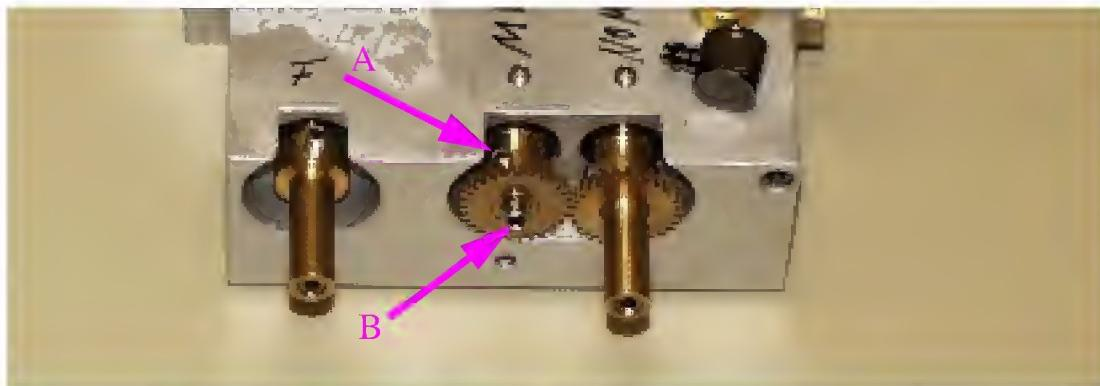
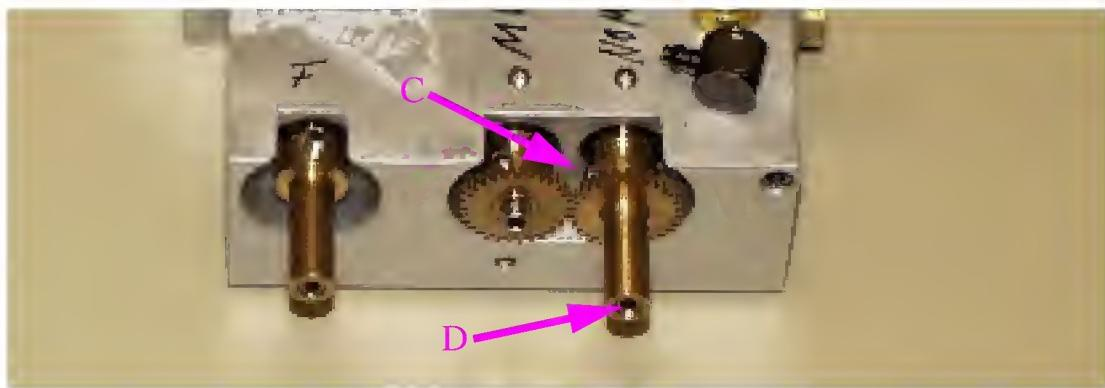

Fig. 22: Working block, Adjusting the "AIR Mix" minute volume
Fig. 23: Working block, Adjusting the “No AIR Mix” minute volume
- Loosen hexagon socket screw A (Fig. 22:).
- With the left-hand adjuster screw B (Fig. 22:) set a flow of 7.5 l/min (5 to 9 l/min).
- With the right-hand adjuster screw D (Fig. 23:) set a flow of 7.5 l/min (5 to 9 l/min).
- Tighten hexagon socket screws A and C (Fig. 22: and Fig. 23:).
- Loosen the screw (1) of the screw clamp and push the screw clamp over the pressure gauge into the interior of the Oxylog 1000.